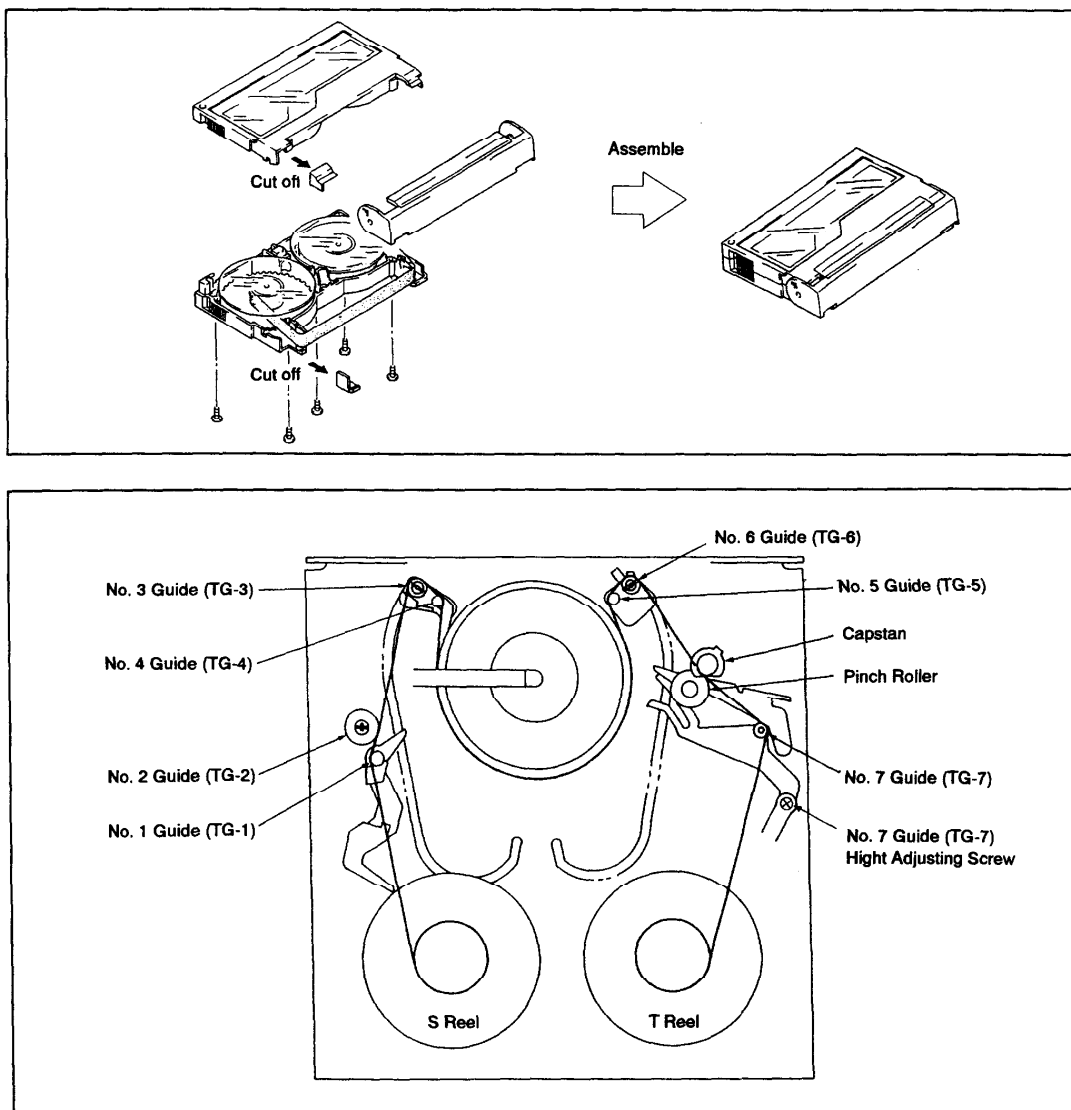

Fig. 4-2.
The height adjustment screw for No.7 guide (TG-7) is located at some distance from the guide (refer to Fig. 4-2).
- 1) Clean tape path surfaces (tape guides, drum, capstan shaft, pinch roller) (See Fig. 4-2).